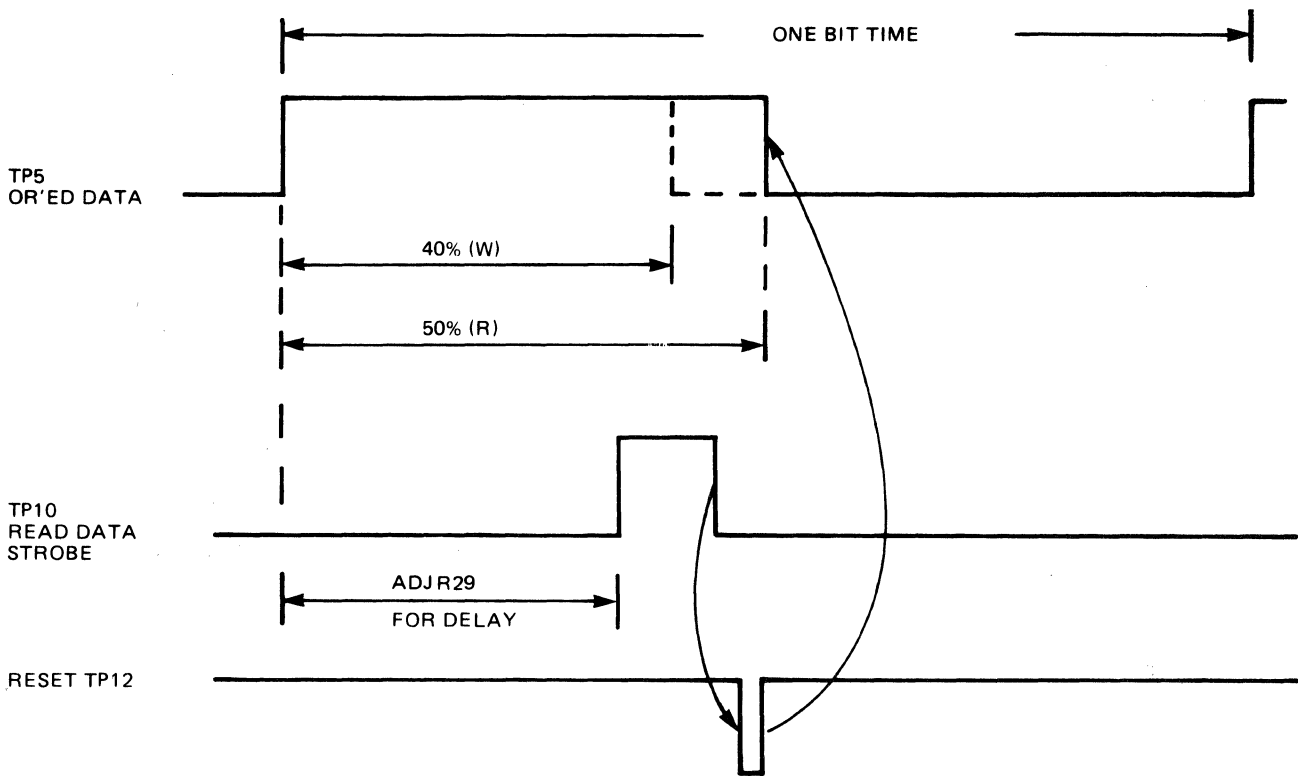

Figure 5-7. Read Character Time Adjustment Waveform
- c. Adjust potentiometer R29 so that the positive pulse observed on the oscilloscope is equal to 50% of a bit time (refer to table 5-4 and figure 5-7).